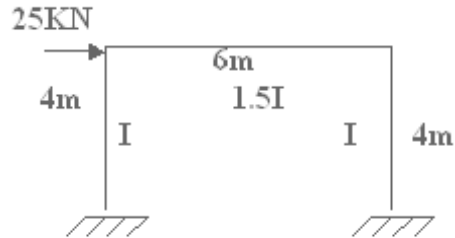

Figure 1
7. Analyse the portal frame shown in figure 1 and Sketch the BMD by using moment distribution method. [16]